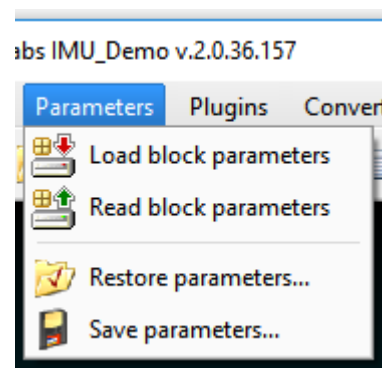

Fig.3.4
**Parameters** Menu contains operations with IMU parameters (Fig.3.4).